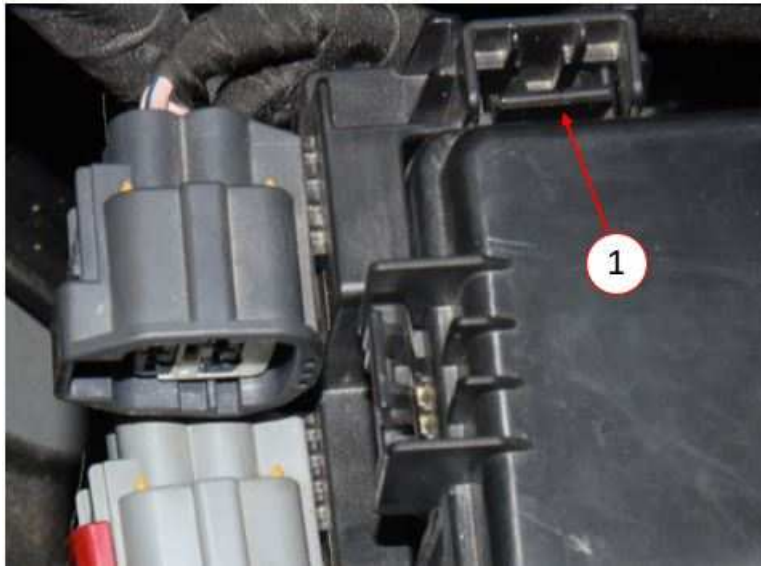

Fig. 3
5. Press the lock tab on the connector bracket and pull up on the bracket to release it from the AUX PDC, (Fig. 3) .